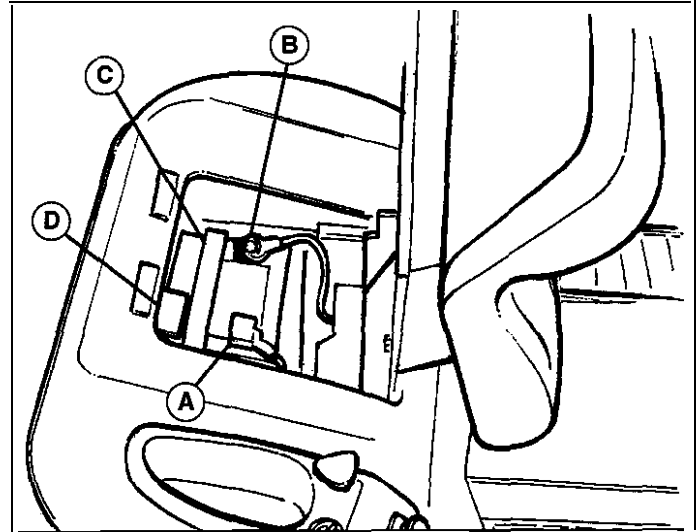

Figure 13. Battery
2. Remove battery filler cap (C, figure 13). Fluid must be even with split ring full mark. If not, add distilled water.
1. Disconnect the cables from the battery, negative cable first (B, figure 13).
2. Remove the battery clamp (D, figure 13), then remove the battery.